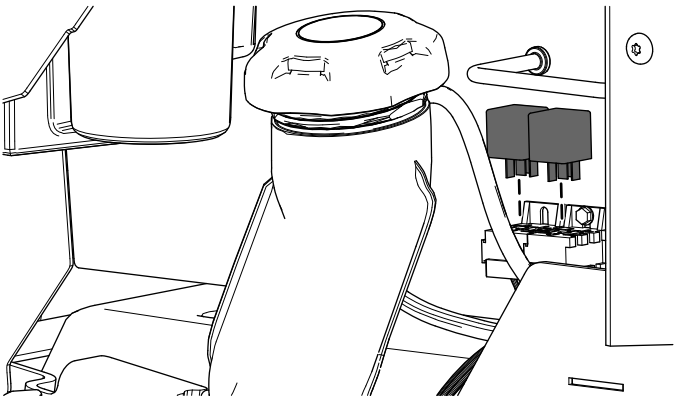

Figure 15
- Install the 2 relays (Figure 15).